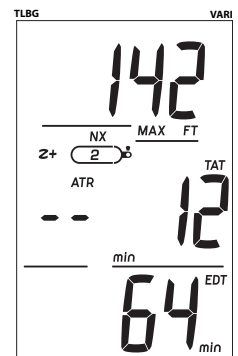

Fig. 64 - DECO STOP ALT 1
**DECO STOP ALT 1**, information includes (Fig. 64):